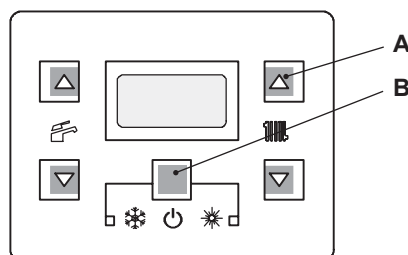

Figure 9.9
- 4 To modify the parameter press contemporary the keys (A - B Figure 9.9).